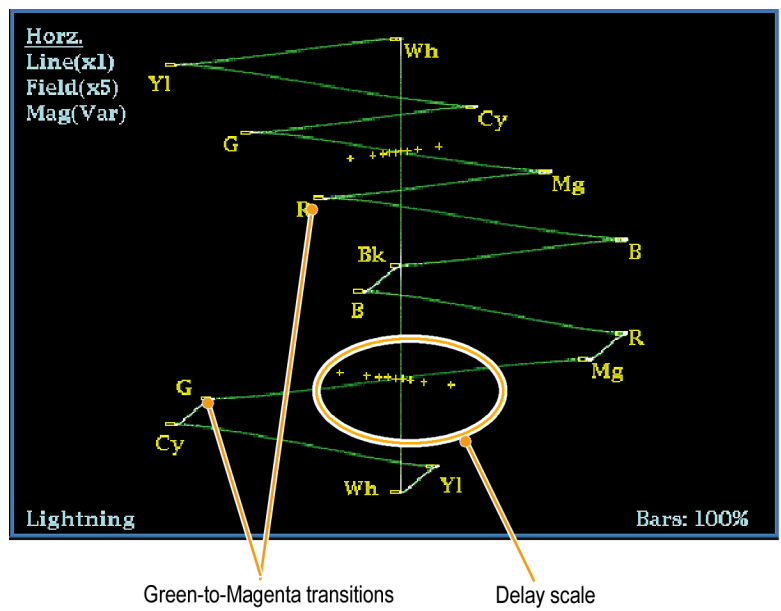

Figure 58: Determining transition intersections in the Lightning display
7. Determine where transitions intersect the delay scales and derive the timing error in nanoseconds, as deflected from the center mark, using the following guidelines. (See Figure 58.)